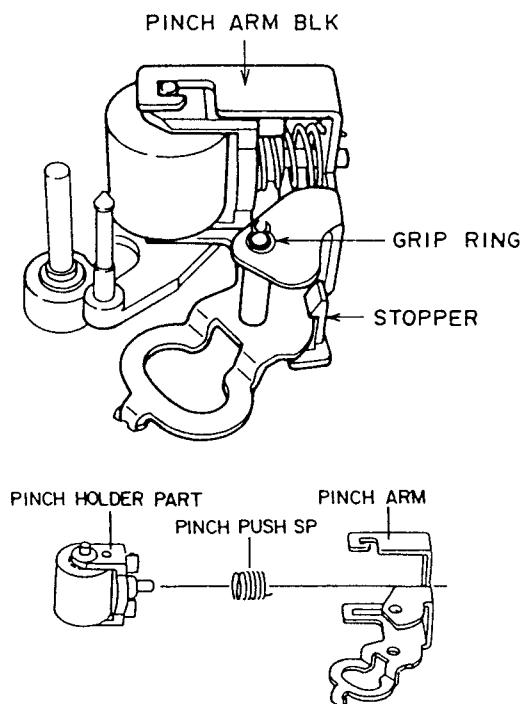

Fig. 3-8
- 1) Remove the grip ring and release the stopper of the PINCH ARM and remove the PINCH ARM BLK as shown in Fig 3-8.